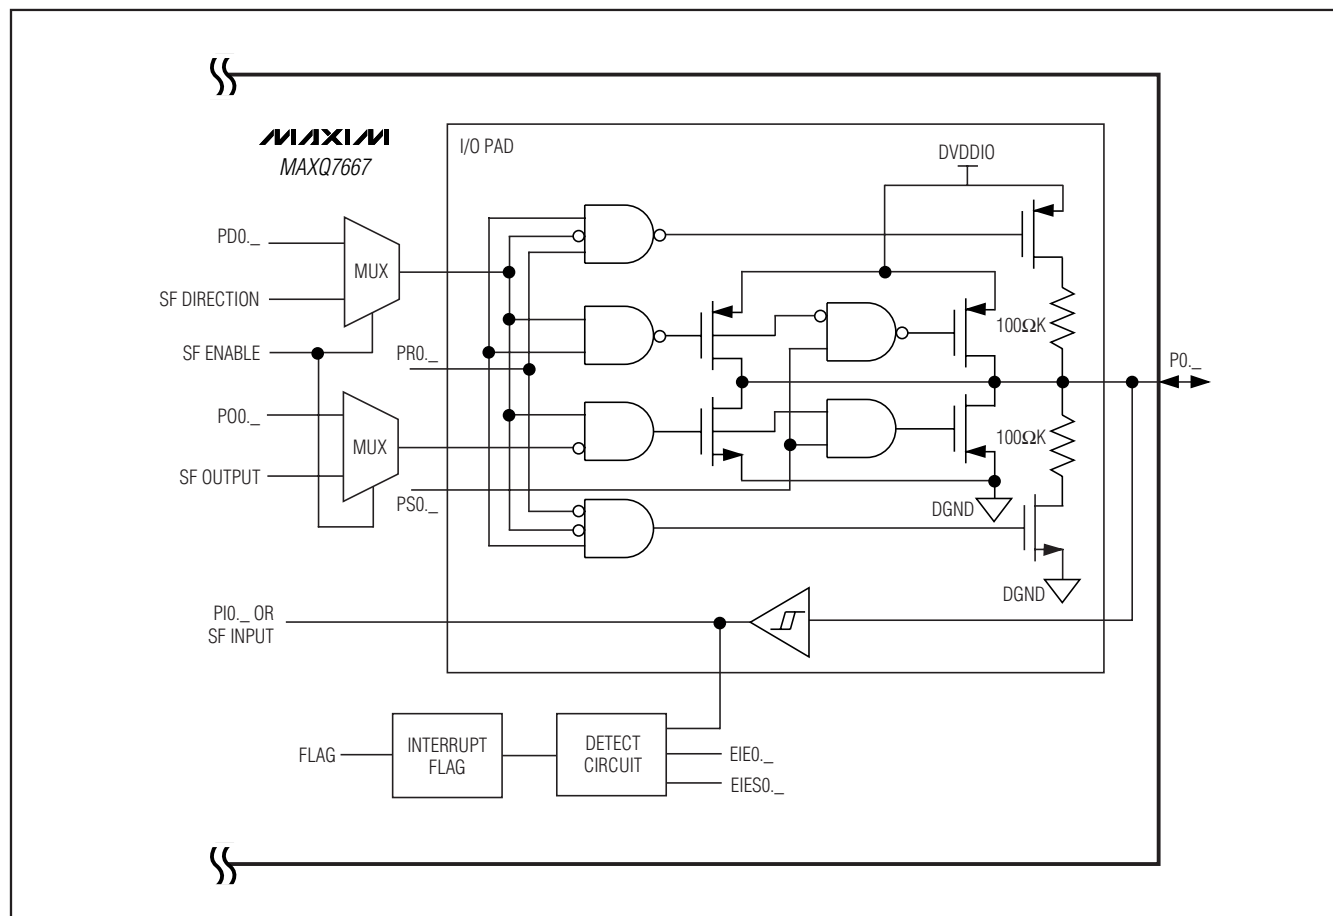

Figure 13. Port 0 Digital I/O Basic Circuitry. Port 1 Circuitry is the Same as Port 2.
Two 8-bit digital I/O ports (P0._ and P1._), with dedicated one or more alternative functions, are available as general-purpose I/Os (GPIOs) under the control of the integrated MAXQ20. Set each I/O within each port individually as an input or output. The GPIOs incorporate a Schmitt trigger receiver and a full CMOS output driver (Figure 13). Each GPIO configures as an input with pullup to DVDDIO at power-up. When programmed as an input, each I/O is configurable for high-impedance, weak pullup to DVDDIO or pulldown to DGND. When programmed as an output, writing to the port output register (PO) controls the output logic state. The outputs source or sink at least 1.6mA. Configure the drive strength for each I/O within each port to high or low using the pad drive strength register for optimum EMI performance. All the I/O ports have interrupt capability that wake up the device while in stop mode and have protection circuitry to DVDDIO and DGND.